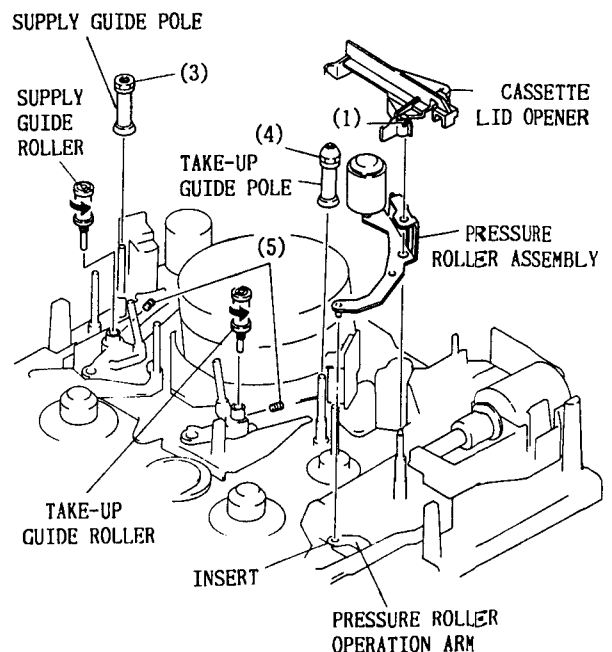

Fig. 7-8 Rollers and Guides
8. Rollers and Guides (Fig. 7-8)